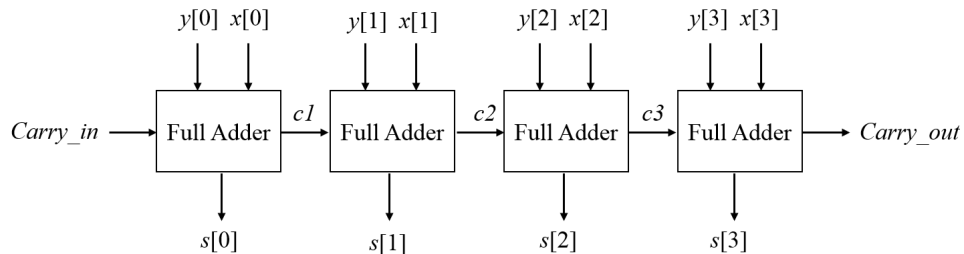
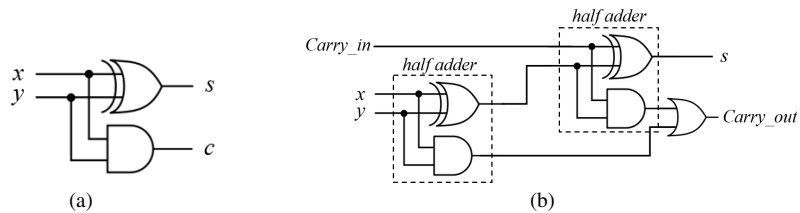

Fig. 1. The architecture of a 4-bit ripple carry adder.
Fig. 2. (a) The architecture of a half-adder and (b) a full adder.
The ripple carry adder (RCA) circuit can be built using a cascade architecture of 1-bit full-adders. As a result, a 4-bit RCA comprises four 1-bit full-adders, which is shown in Fig. 1. In addition, a full-adder can also be constructed by two half-adders and one *OR* gate. Assume that x and y are 1-bit input signals and s and c are outputs standing for *sum* and *carry*. The computation of the half adder can be represented as (1). Fig. 2 illustrates the architecture of a half adder and a full adder. In this homework, please design a 4-bit ripple carry adder according to Fig. 1 in **Gate Level**. You are suggested to design the circuit using hierarchy modules including series of *half adders* and *full adders*. The values are considered as unsigned integers.